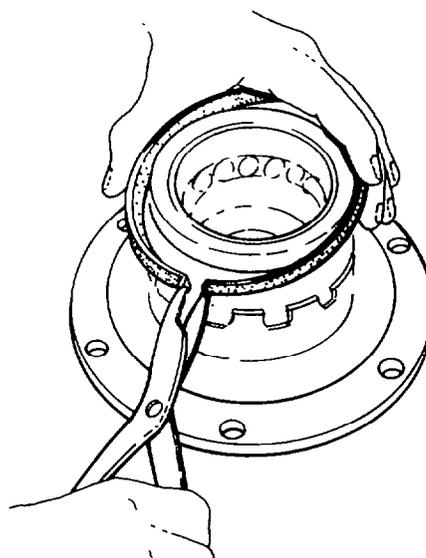

Fig. 300 — Removing Outer Retaining Ring
- c. Push all the upper wedges in as far as possible, then remove the outer retaining ring using ring expansion pliers (see fig. 300).